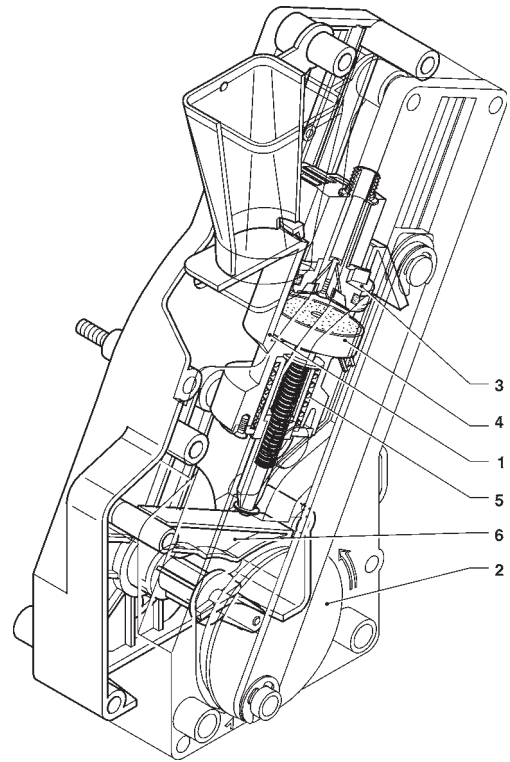

Fig. 20
The ratiomotor handle engaged with the disk (2) located outside of the assembly rotates by 180°, making the brew chamber swing and lowering the upper piston (3) (see Figure 20).
In addition, when the lever is fully rotated upwards, the ratchet can be released from the groove in the dose regulator (see Fig. 20) and replaced into a different groove to change the average dose setting to: